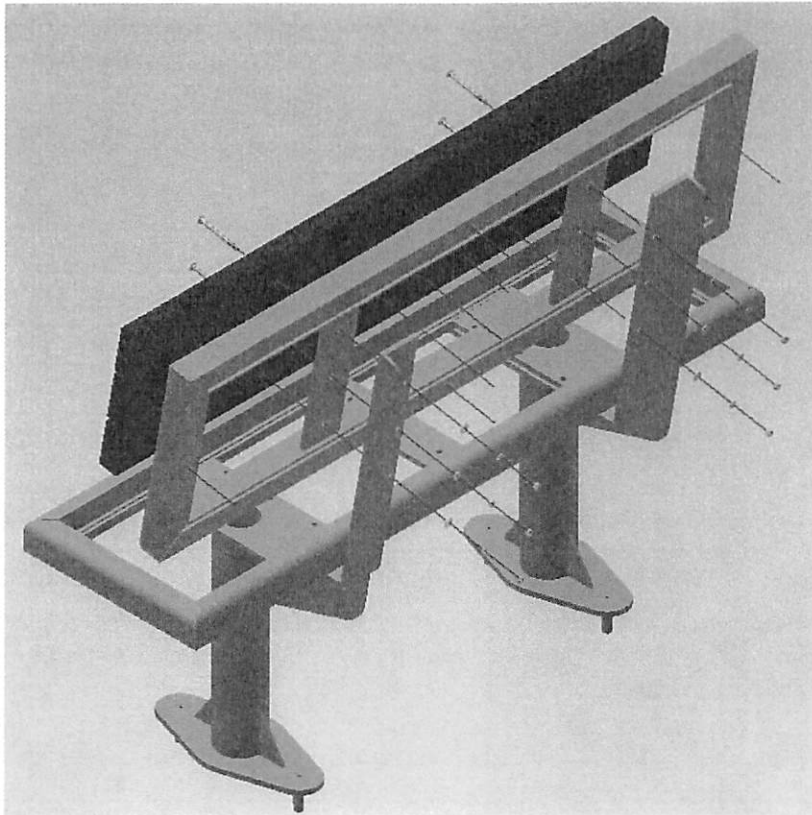

FIG 1
1. Align the back rest frame and recycled material slats (with 2 sets of holes) with the back rest supports and install using 6 of the 1/4" carriage bolts, flat washers, lock washers, and hex nuts as shown in FIG 1.